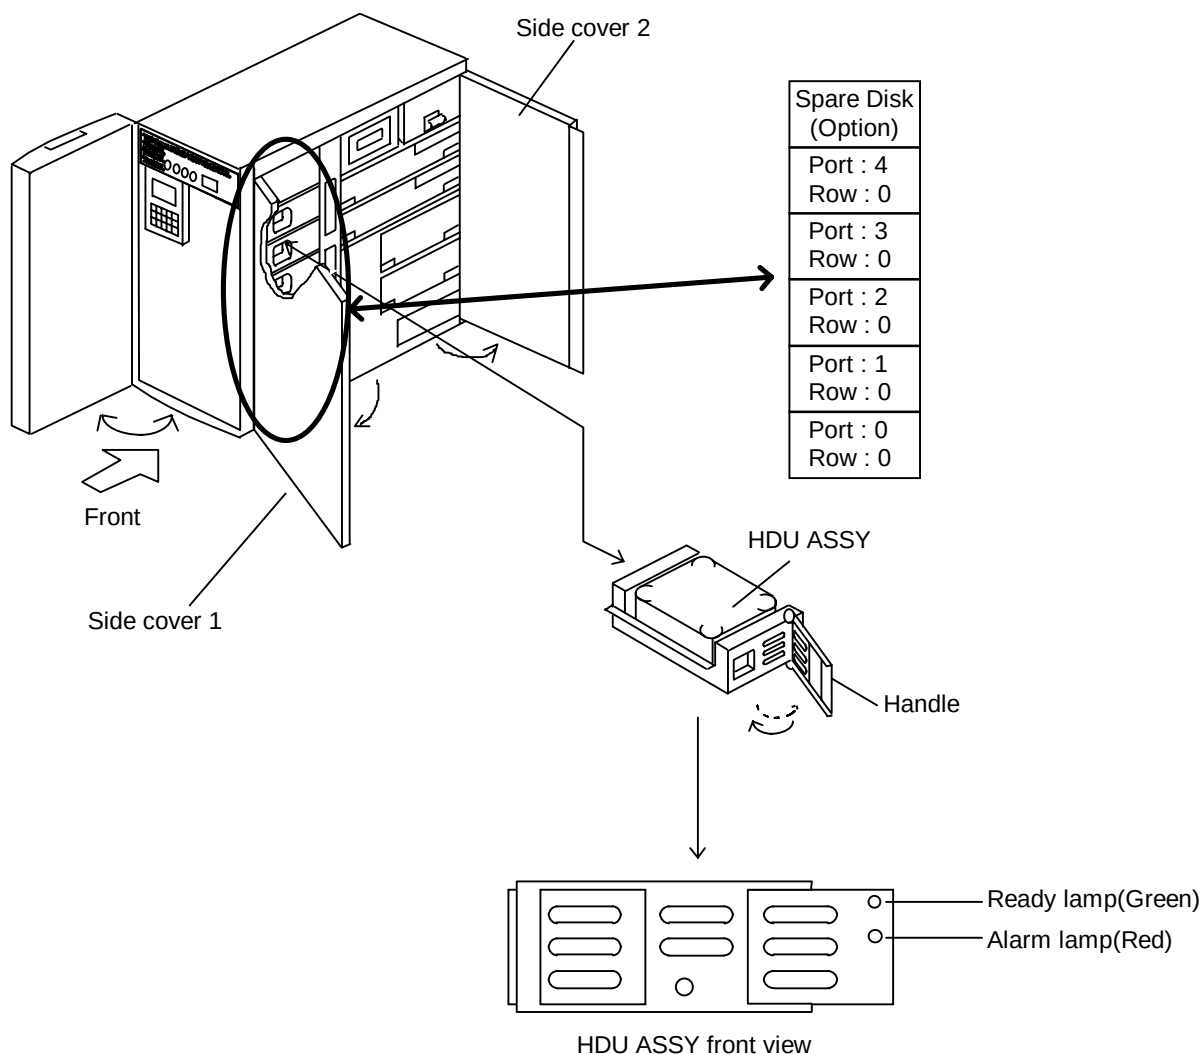

Figure 2.9.1 Installing the HDU ASSY
- (2) Open the front cover and the side covers.
(3) Remove the old HDU ASSY and set the new HDU ASSY. (See Figure 2.9.1 in MK-OPTION0210.)
(4) Set the DIP switches on the CTL ASSY as described below.